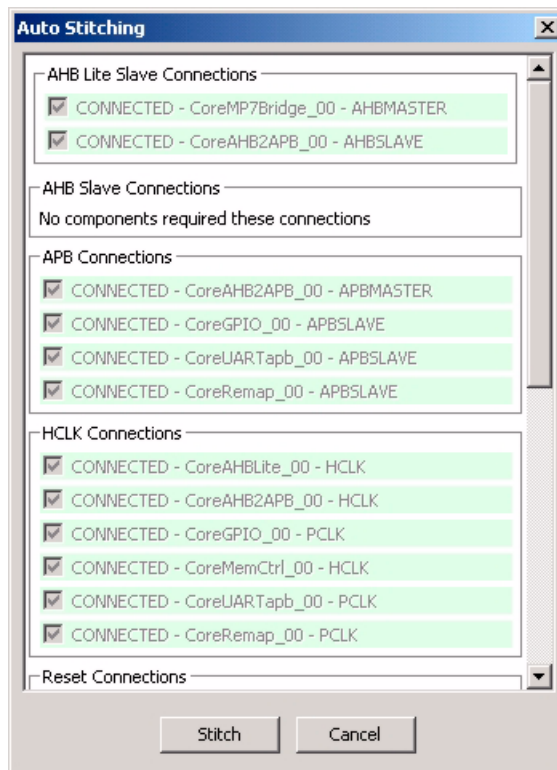

Figure 6-5. Auto Stitching
3. The Auto Stitching window appears with CoreConsole’s proposed connections (Figure 6-5 on page 24).